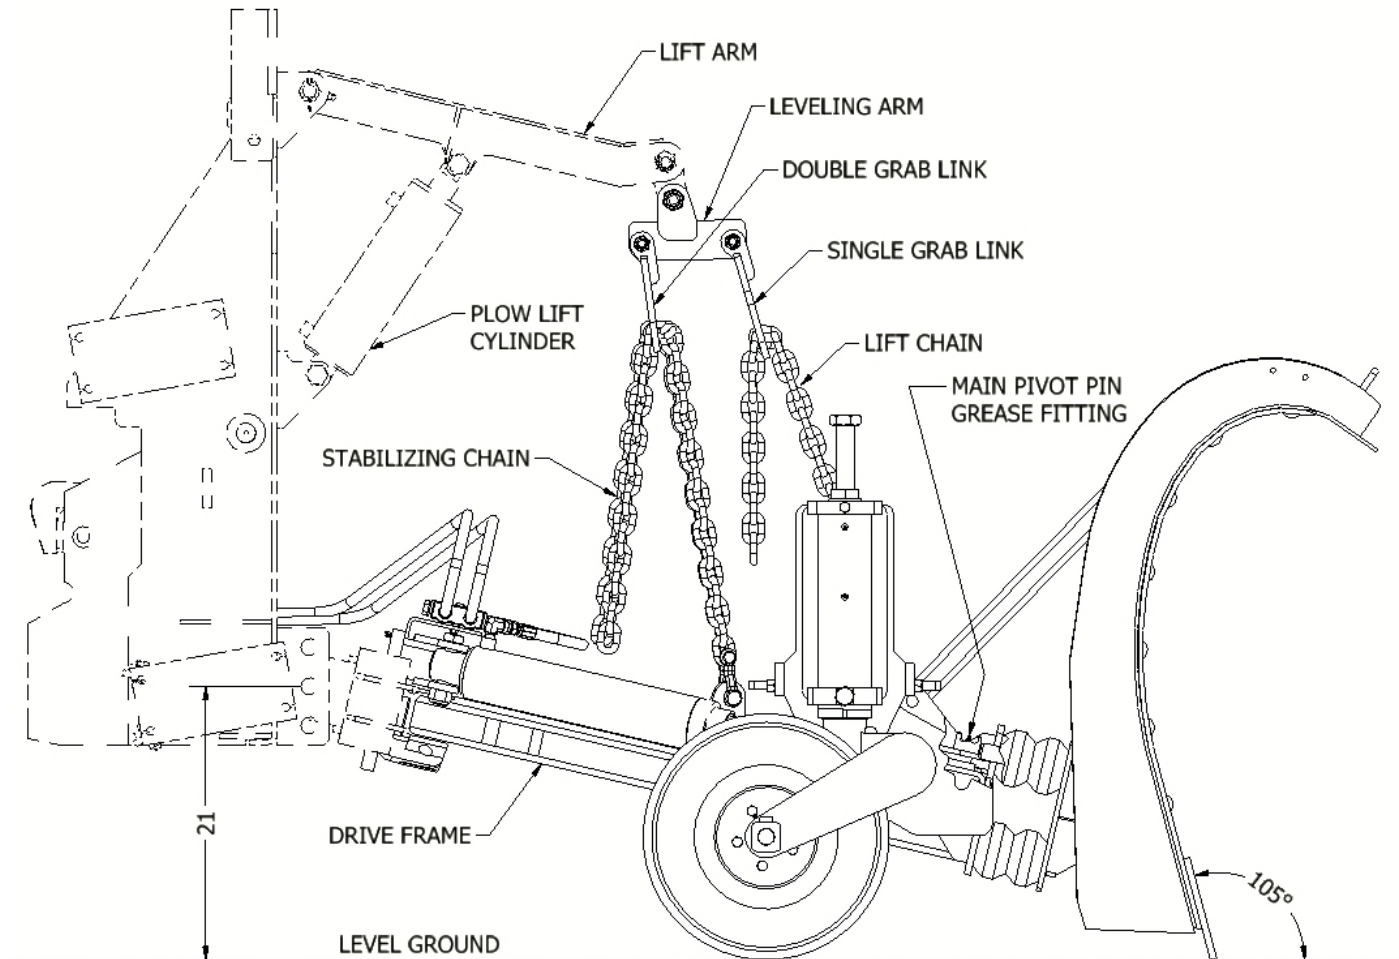
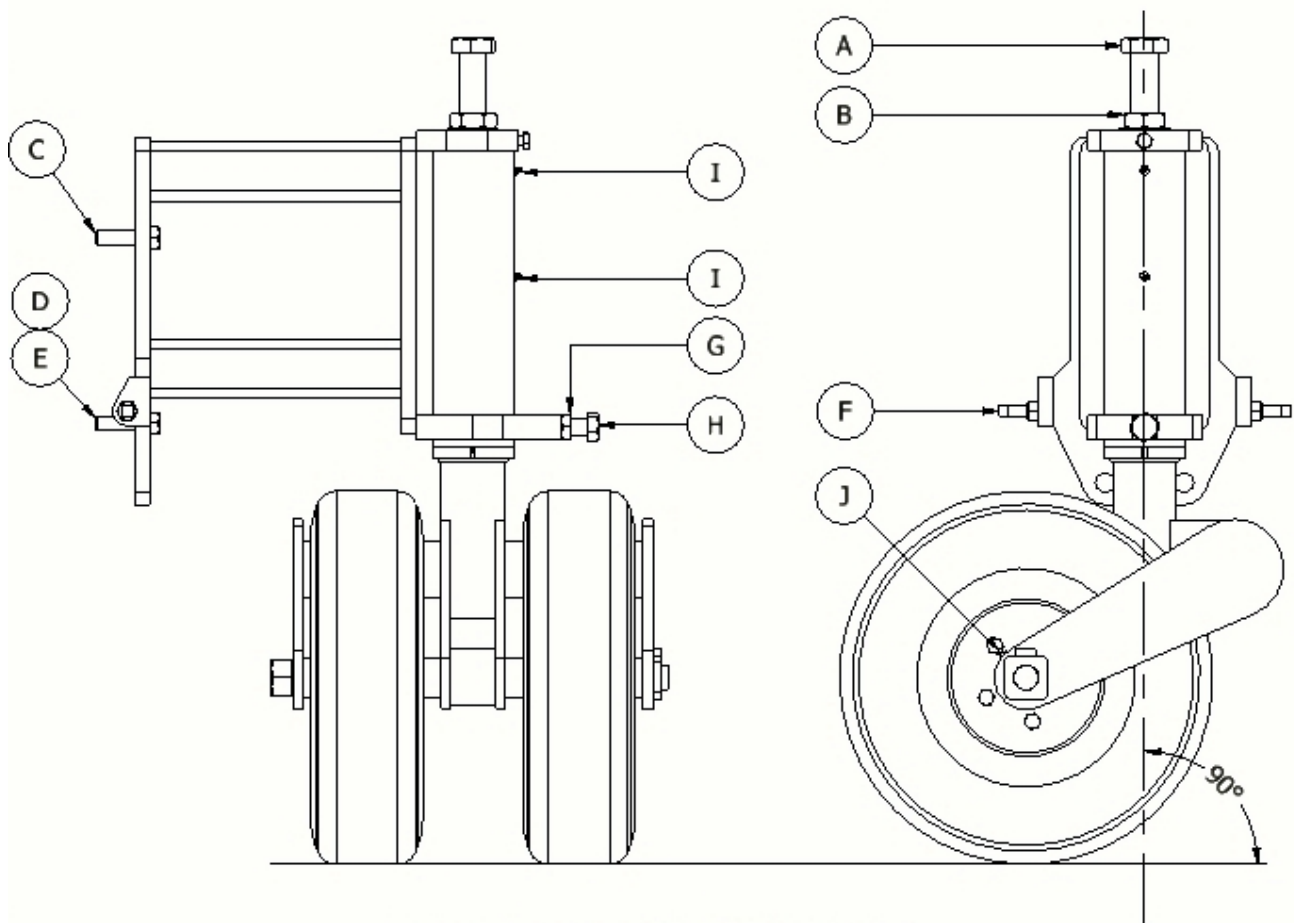

FIGURE 1: DRIVE HEIGHT AND LIFT CHAIN SETUP
FIGURE 2: CASTER ADJUSTMENT
During the initial installation of the plow to the vehicle, some adjustments will be necessary to insure proper operation of the plow and trip mechanisms. It is Viking-Cives recommendation that the plow is set to run at an approach angle of **105** degrees with steel and carbide blades, as shown in figure 1. **NOTE: When plow is being raised, lowered or reversed - stand clear!**
1. Set plow unit on level surface with moldboard in the bulldoze position; adjust drive height to approximately 21" , as shown in figure 1, by adjusting the caster shoes up or down.
For proper performance of the casters it is important that the adjustment caster housing is perpendicular to the plowing surface as illustrated in Figure 2. To make this adjustment:
To adjust caster shimmy, proceed as follows (Refer to Figure 2):
There are 4 grease fittings on the caster assembly and one on the pushframe. Lubricate the main pivot pin, see figure 1 for location, and caster tube assembly, (Item I in figure 2). To lubricate wheel hubs (Item J in figure 2) use a hand grease gun to prevent applying excessive pressure on the seal and dust cap. Dust caps are fitted with 5 psi pressure plugs to prevent pressure build up and allow excess grease to escape.